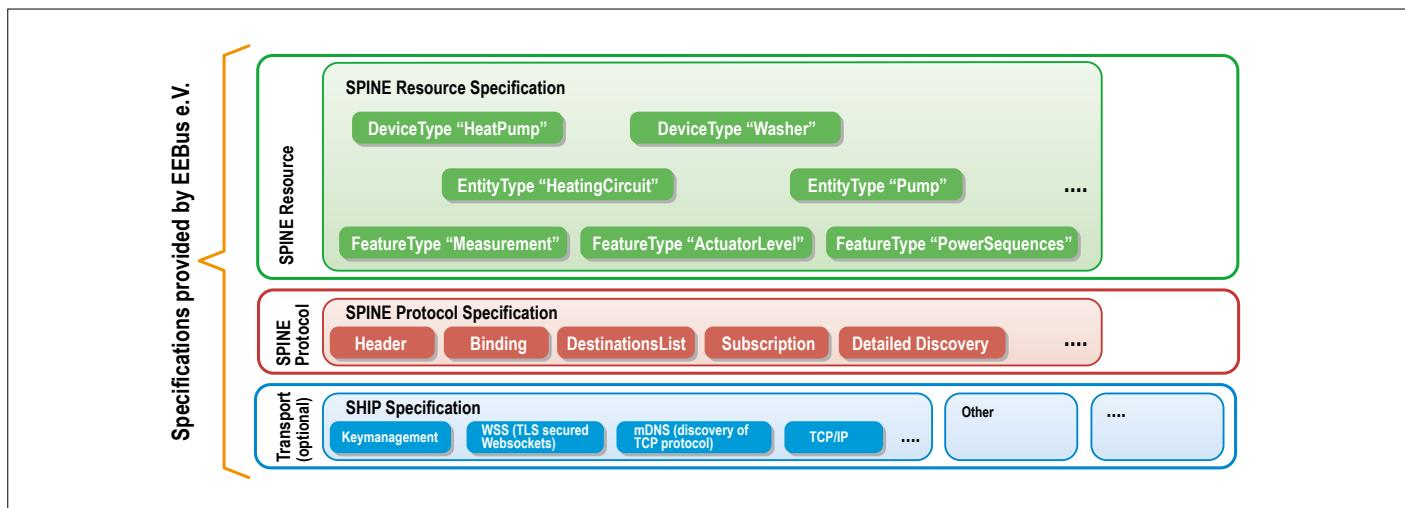

Figure 1. EEBUS architecture with three-level addressing.
**Figure 1** illustrates the overall architecture. At the top level of the hierarchy we have the physical device: this might be a washing machine, a smartphone or a light.